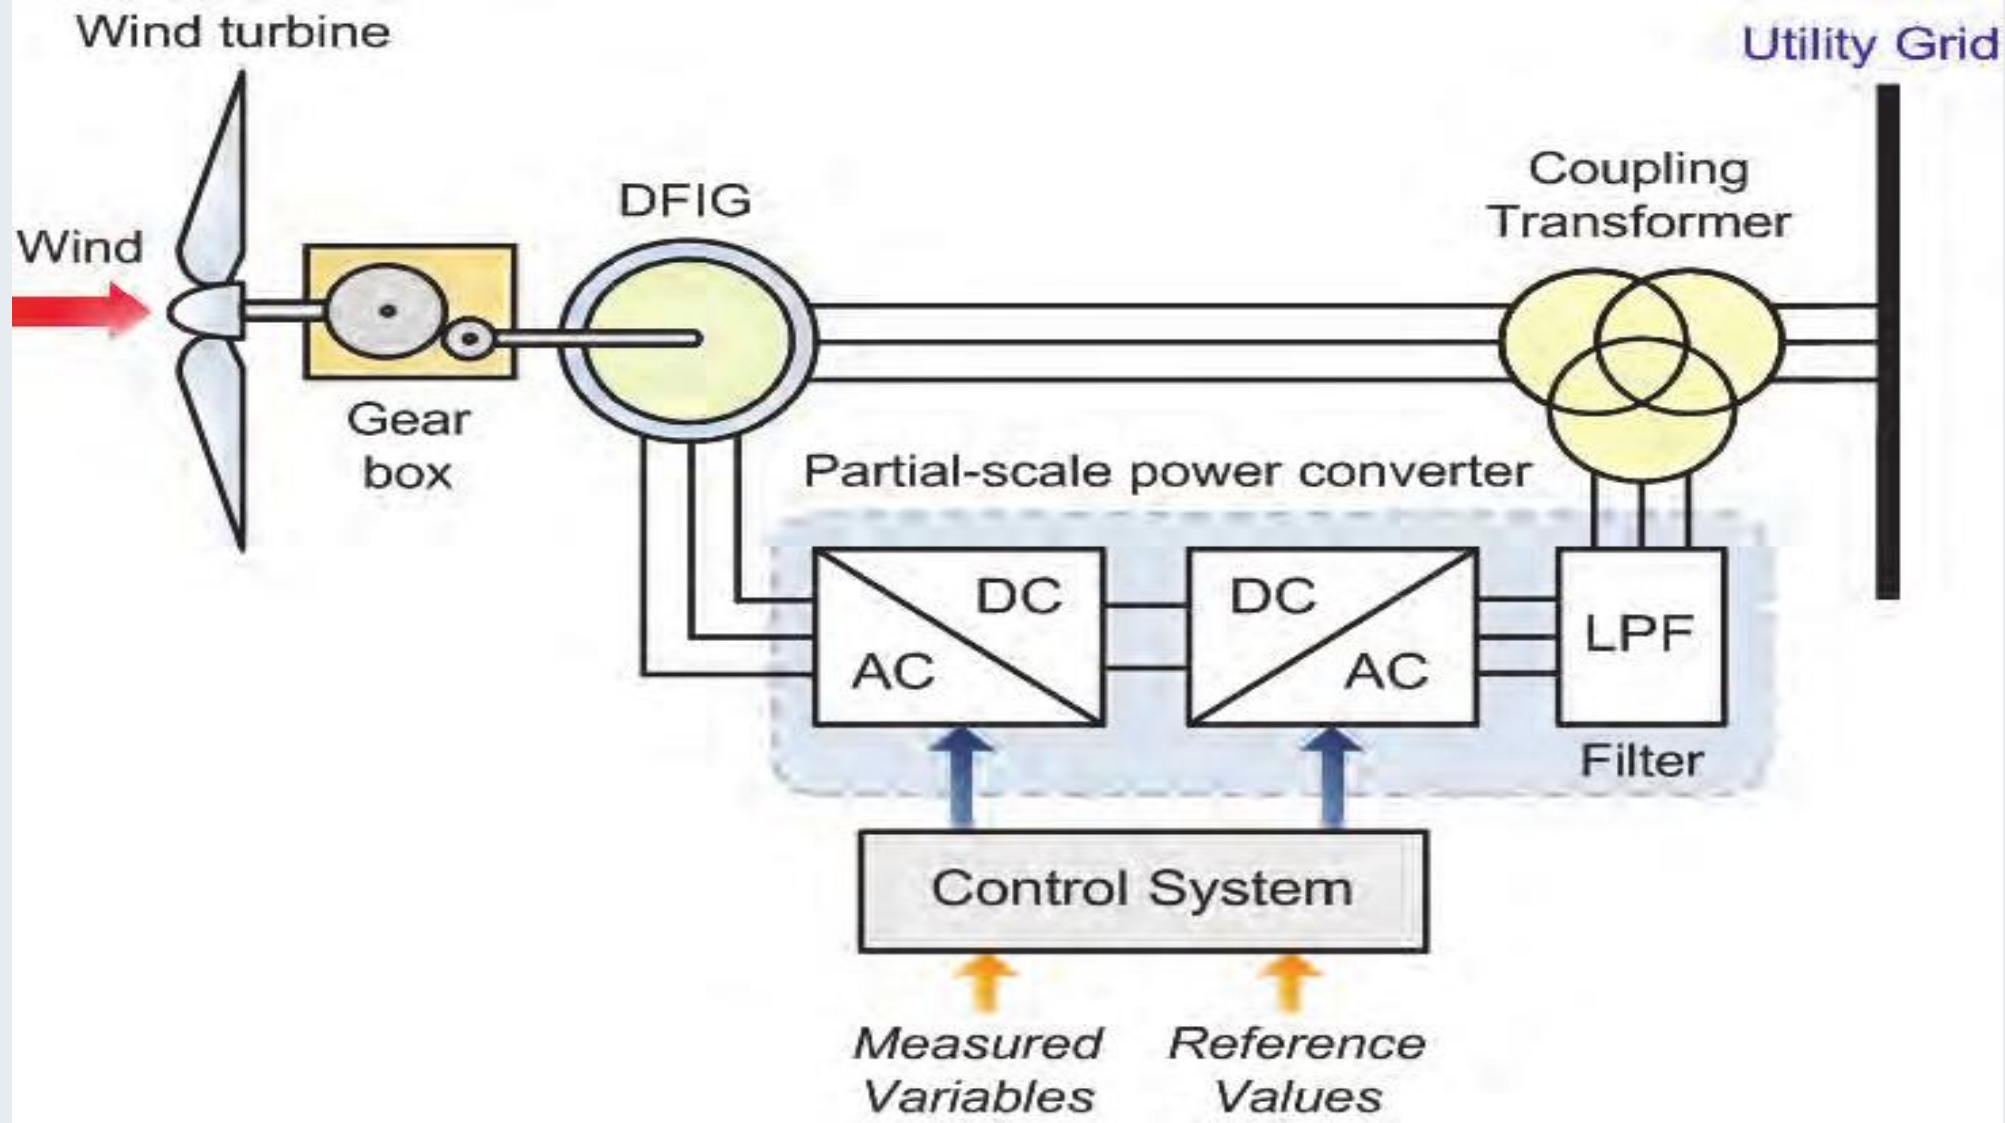

Figure 8. Variable speed (DFIG) wind power control. Source :<https://www.researchgate.net>
- The variable speed wind Turbine is presented in Figure 8.